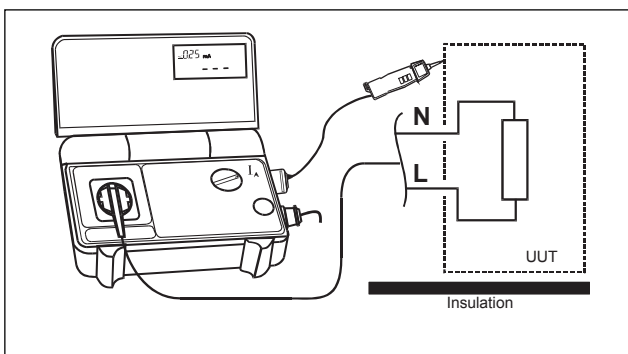

Fig.7.30
- Scan all touchable, conductible UUT parts by means of COMMANDER 1 (Fig. 7.30).